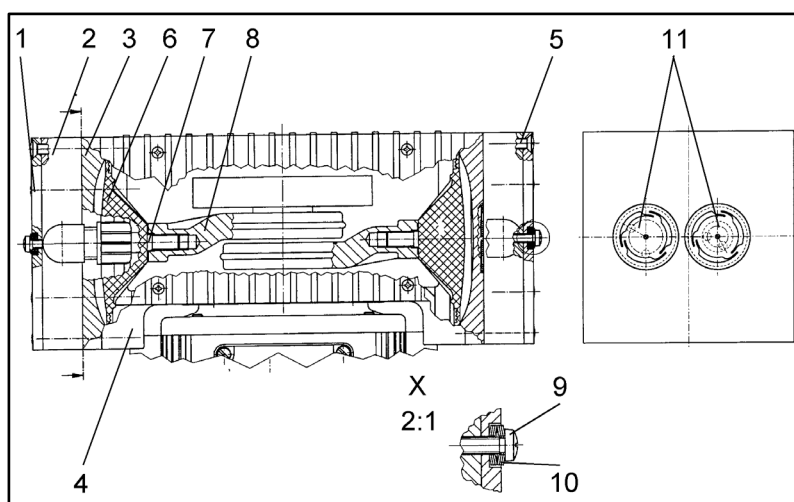

Fig. 10: Pump heads FTE types (symbolic)
**i** The position numbers in the following text refer to Fig. 10.
1. Turn the fan to bring the structured diaphragm (6) to medium position.
2. Place the intermediate plate (3), with valve plates/sealings (11) on the housing, in the position indicated by the marking (M).
3. Place the head plate (2) on the intermediate plate (3) in the position indicated by the marking (M).
4. Place top plate (1) in position and insert screws (9) with disk springs (10), and tighten them until the screw heads are just fully seated (do not completely tighten them!).
- The concave side of the first three disk springs must point away from the screw head, the next three towards it (see Fig. 10, detail X).
5. Gently tighten the screws (5), evenly and diagonally.
7. Now tighten screws (5) firmly (tightening-torque: 8 Nm).
8. Tighten each of the screws (9) a half turn more (tightening-torque: 20 Ncm).